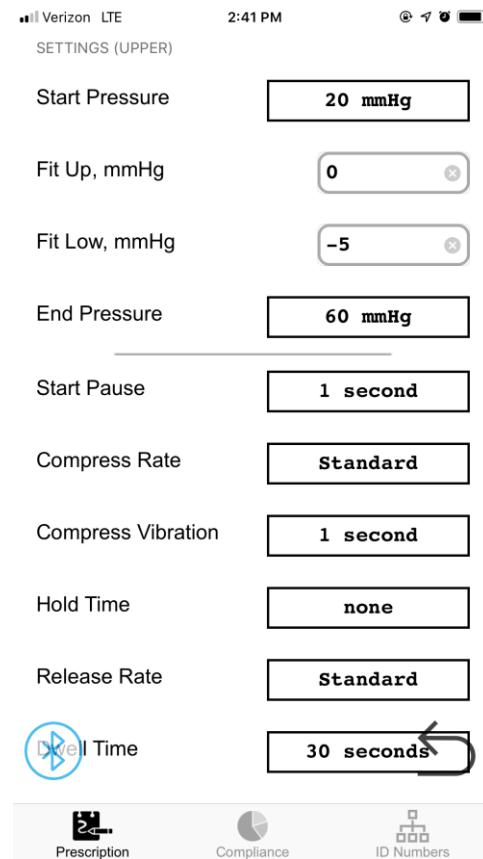

Figure 9: Typical therapy parameters
- a. The therapy parameters include the following – **Figure 9:**